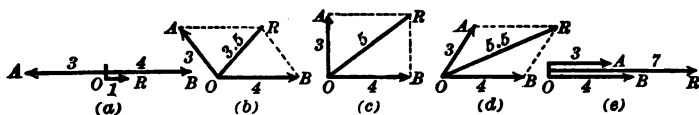

FIG. 114. — Two forces at varying angles.
**109. Resultant depends on the angle between components.** To determine the resultant of two or more forces, we must know not only the magnitude of the "components," but also the angle between them. This will be made clear by studying the same two forces at different angles, as in figure 114. It will be seen that the resultant  $OR$  gradually increases as
For oblique angles, such as (b) and (d) in figure 114, the resultant can be determined by plotting the forces to scale, or by trigonometry.